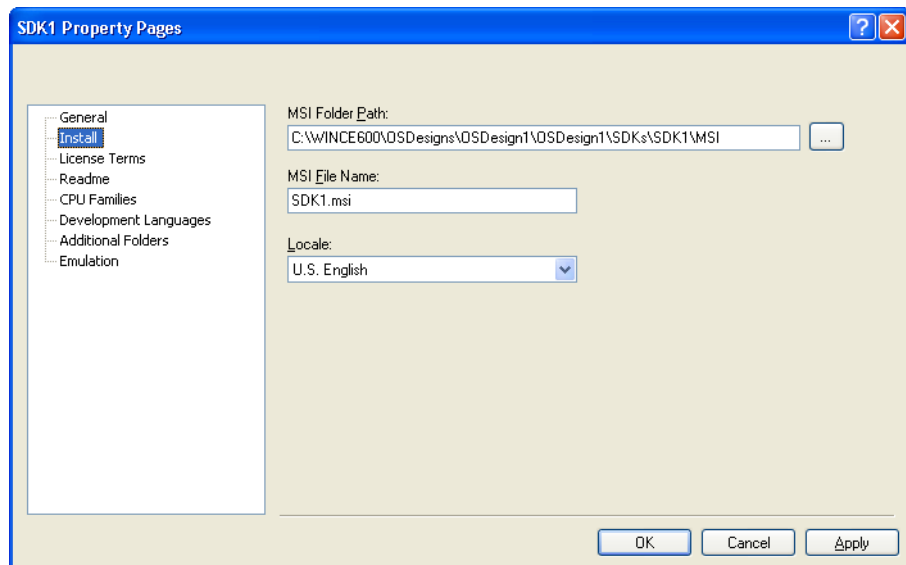

Figure 1-7 SDK Property Pages dialog box
3. In the SDK Property Pages dialog box, configure the Install properties of the SDK and define the MSI Folder Path, MSI File Name, and Locale, as illustrated in Figure 1-7. You can also specify a number of custom settings.